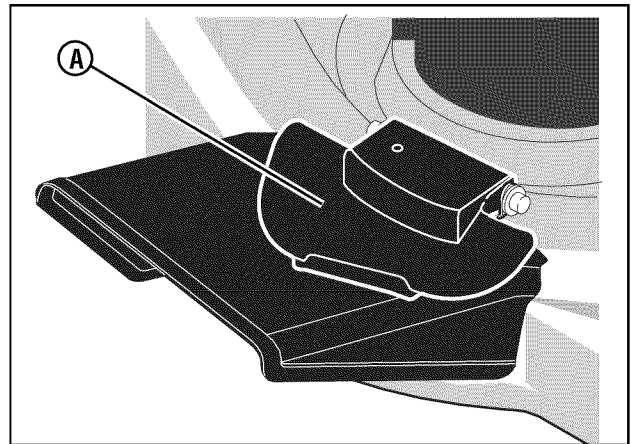

Figure 10: Releasing the mulcher cover
4. Lower the mulcher cover (**A, Figure 10**).